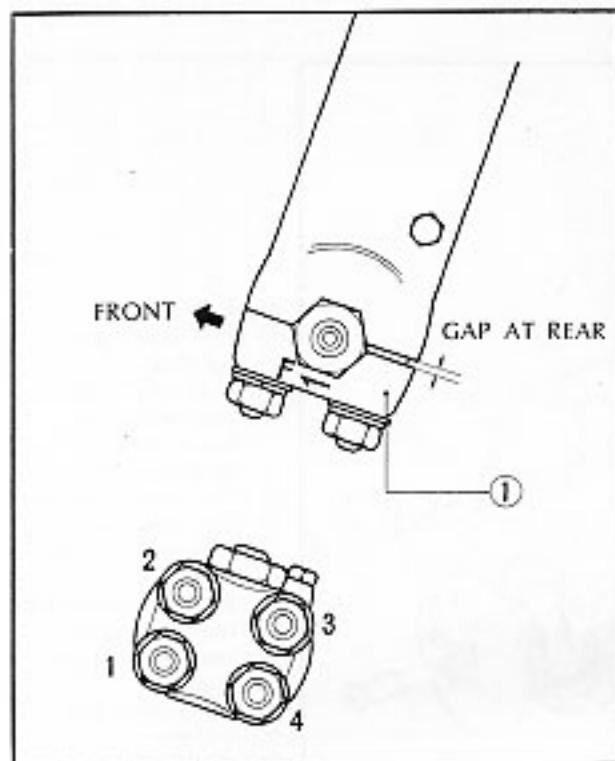

Fig. 4-13 ① Front axle holder
1. Install the front axle holders with the "F" mark facing toward the front. Tighten the front mounting nuts before tightening the rear nuts.(See Fig. 4-13.)